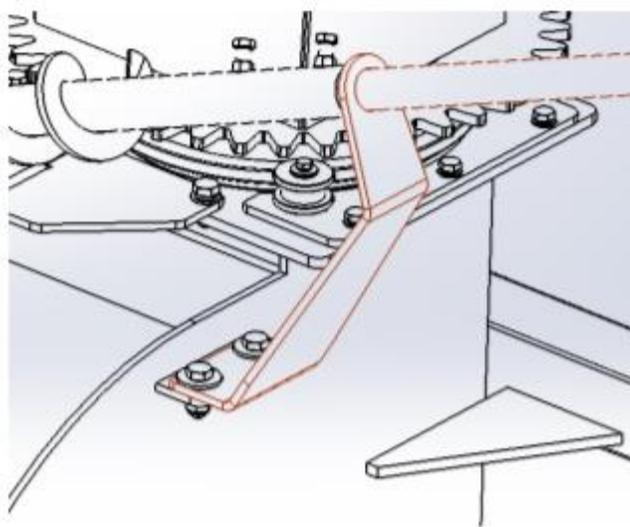

FIGURE 9: Rear bracket installation location
- b. Locate the Rear bracket on the position shown in the Figure9, and then fix it with M10x20 bolt, large plain washer 10 and spring washer 10.